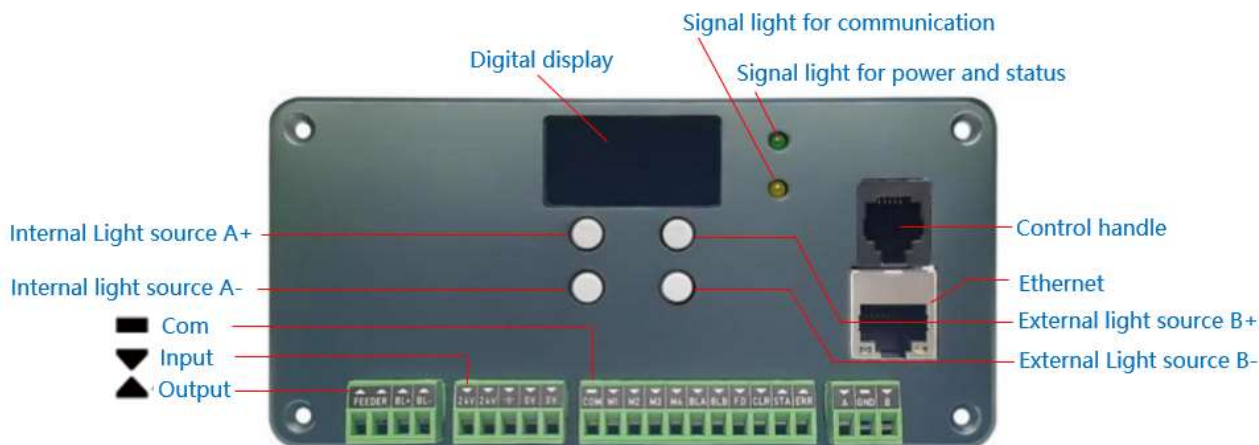

Figure 4.1
See figure 4.1
- ✧ Manual adjust shown as above figure 4.1 vis A+/A-/B+/B-.